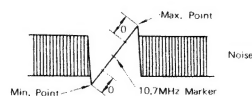

Figure 8
- Adjust black core and red core of T201 to obtain the wave form as shown in Figure 8.